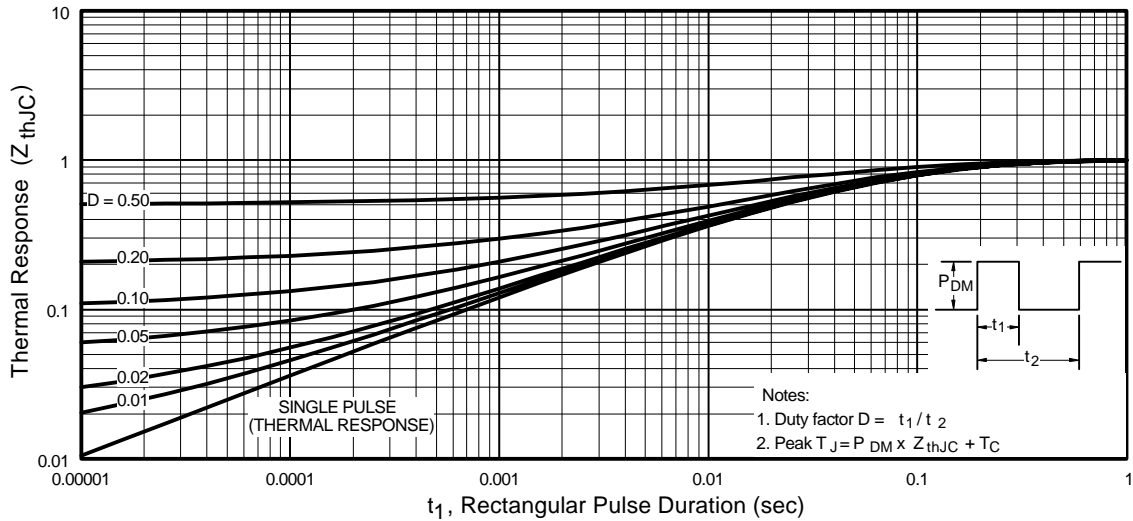

Fig 11. Maximum Effective Transient Thermal Impedance, Junction-to-Case
- ① Repetitive rating; pulse width limited by max. junction temperature. (See fig. 11)
- ② Starting $T_J = 25^\circ\text{C}$, $L = 29.6\text{mH}$